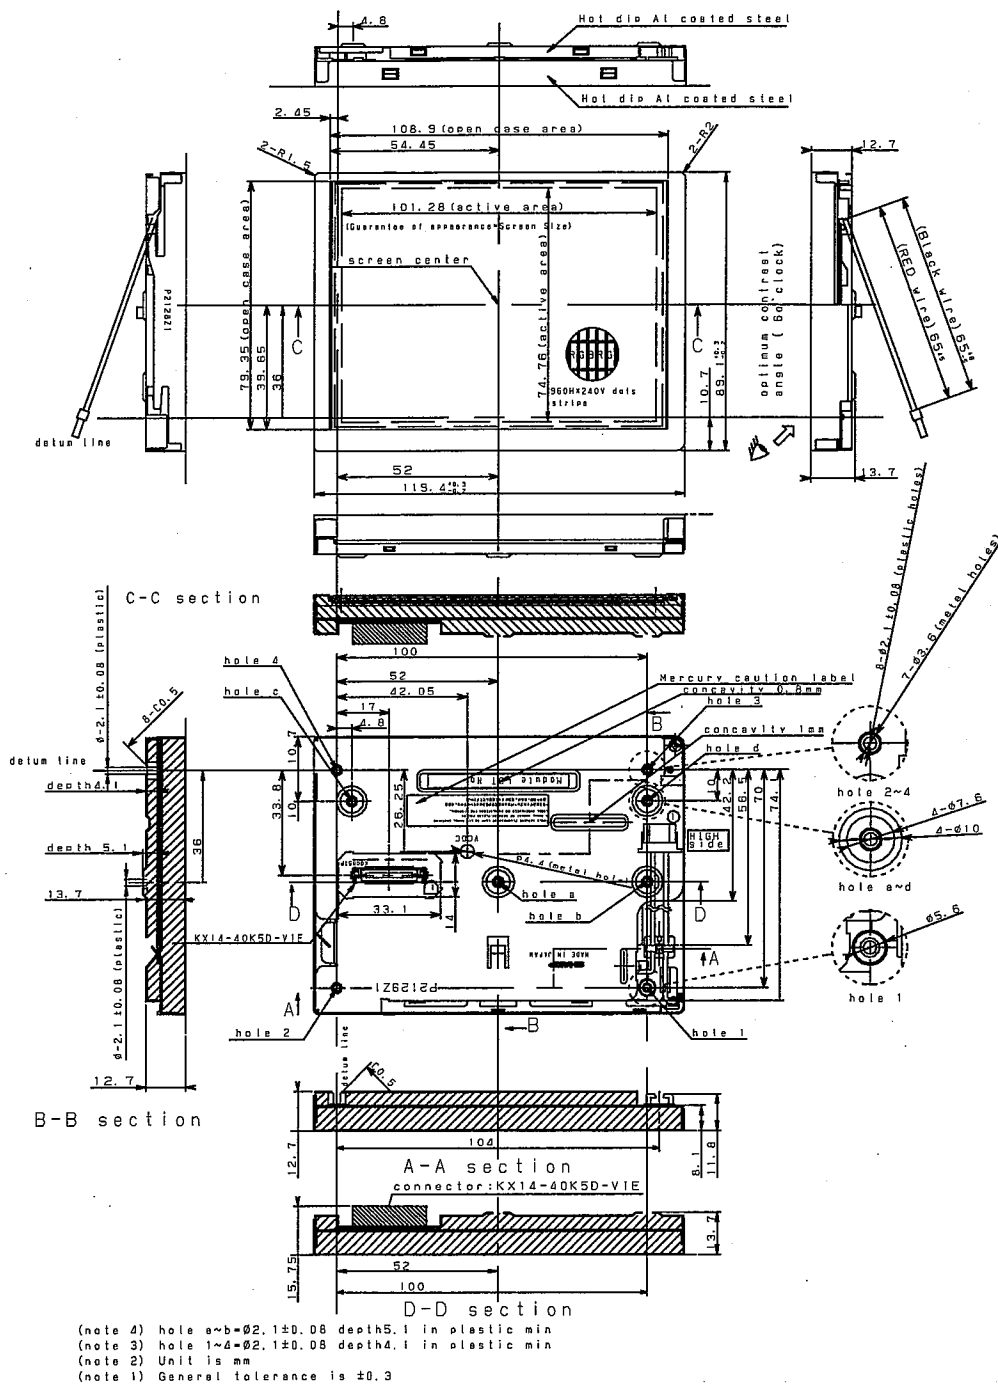

Fig.1 Outline Dimensions
Do not exist extreme defects. (See Fig. 1)
①Attached location of the label : See Fig. 1
②Indicated contents of the